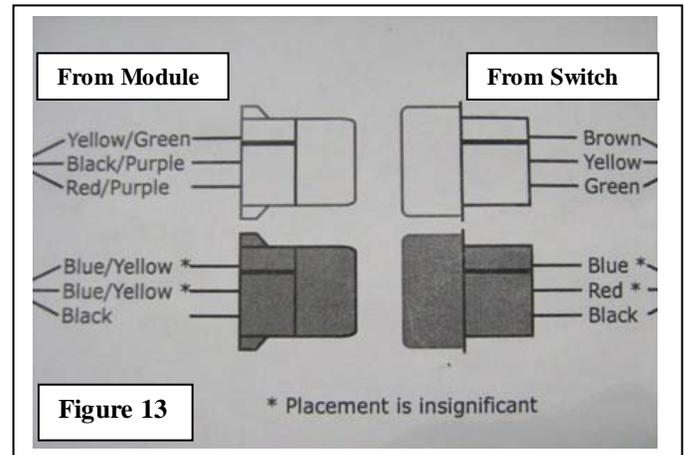

Figure 13
3. Assemble (2) 3-pin connectors from the sack parts to the mating wire colors on the **Control Switch Harness**. Use the diagram to mate the **module harness** to **switch harness**. **Figure 13**